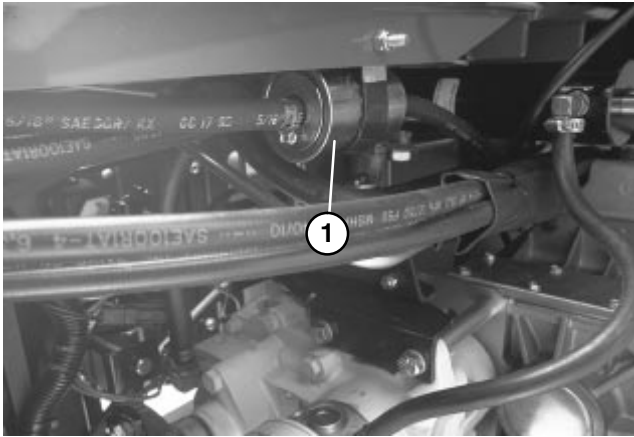

Figure 30
1. Clamp both fuel lines that connect to fuel filter (Fig. 30) so gasoline cannot drain when lines are removed.
2. Loosen hose clamps (Fig. 30) at each end of filter, pull fuel lines off and discard filter.